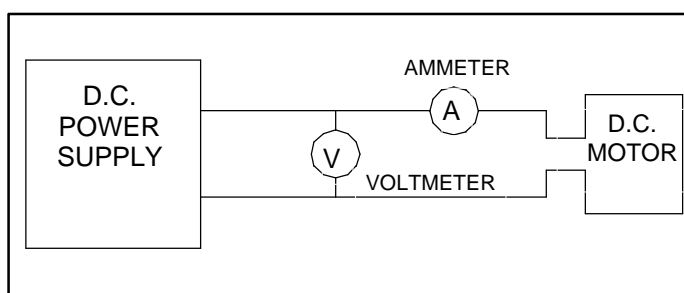

Figure 4-16: Electrical Test Circuit
3. If the motor turned freely, connect an ammeter in the circuit as shown in Figure 4-16. With rated voltage applied and the shaft running free, the ammeter should read less than 20% of the nameplate full load current. If the motor meets the above conditions then it can be assumed the original problem is external to the motor.